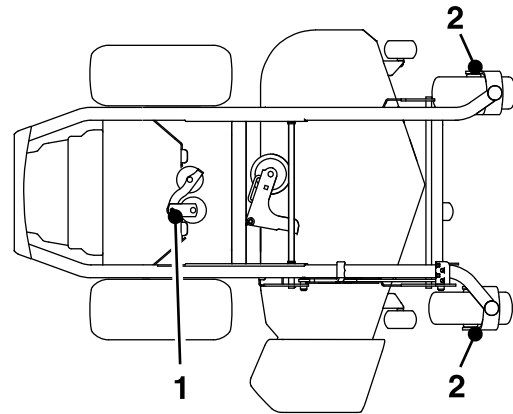

Figure 41
3. Grease the pump idler-pulley pivot with 1 or 2 pumps of grease (Figure 41).
4. Grease the front caster axles (Figure 41).